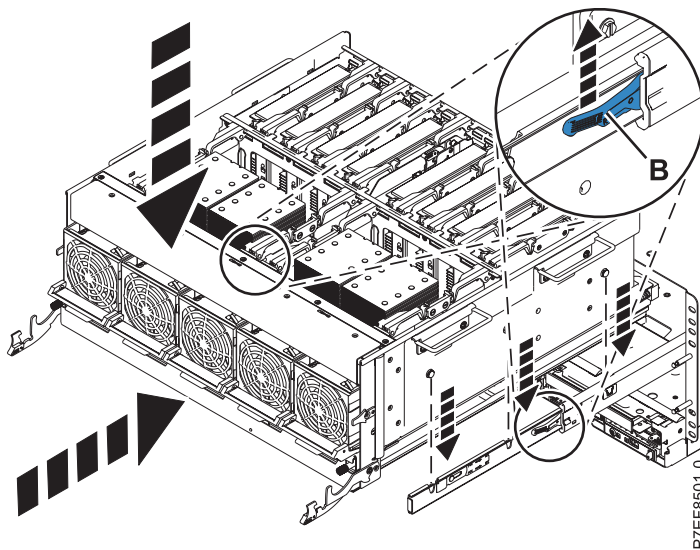

Figure 6. Installing the system processor assembly
- c. With the system processor assembly secured on the rails, lift the slide release buttons (one on each side) to unlock the rails (**B**). See Figure 6.